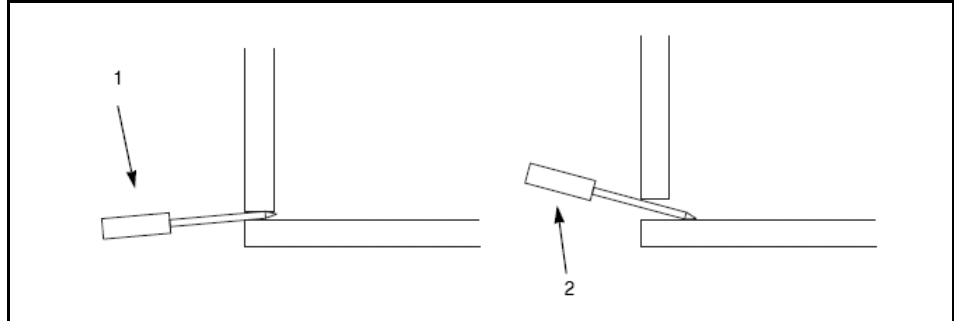

Fig. 41 Opening of the mechanical hood
5. Use two flat blade screw drivers and insert these into the openings (Fig. 41) and lever the cover for the mechanical section out at the bottom.